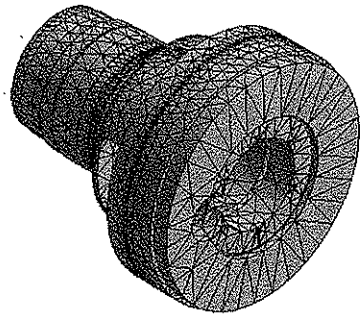

Figure 7-62 Meshed model
- 3. Choose the **Generate Mesh** tool from the **Graphics** toolbar, to generate a mesh with default settings provided by ANSYS Workbench, refer to Figure 7-62.